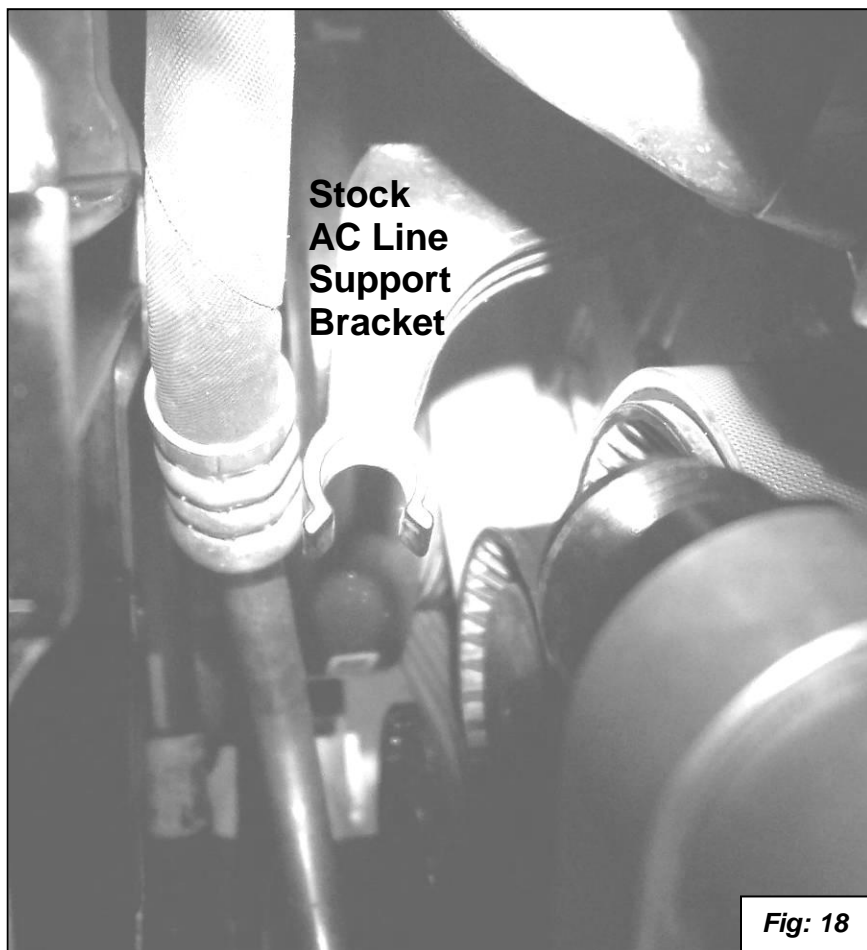

Fig: 18
37. Replace the AC Line Support Bracket. To make room for the new Oil Cooler Hoses you will need to remove the stock plastic AC line support bracket from the front of engine. This bracket will be replaced by a new steel AC Line Support Bracket that relocates the AC line down and slightly forward. Pull the AC line out of the C-shaped tip of the stock support bkt. Remove bracket and save the single mounting bolt for the new support bracket. See figure 18.